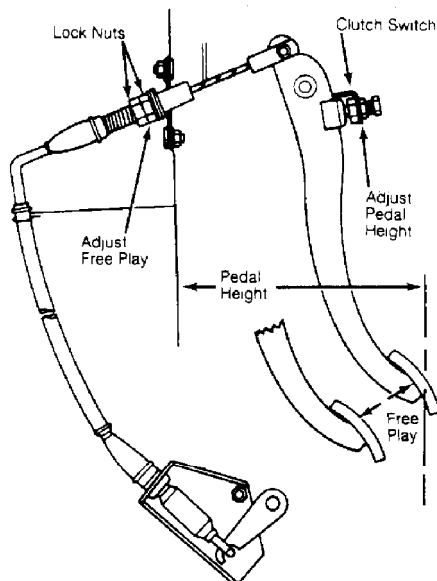

Fig. 2: GLC Wagon Clutch Cable Assembly
2) Pull and remove cable through stop ring from engine side of firewall. Disconnect inner cable at release lever. Remove retaining clip, pull outer cable and remove from clutch housing bracket. See Fig. 2.